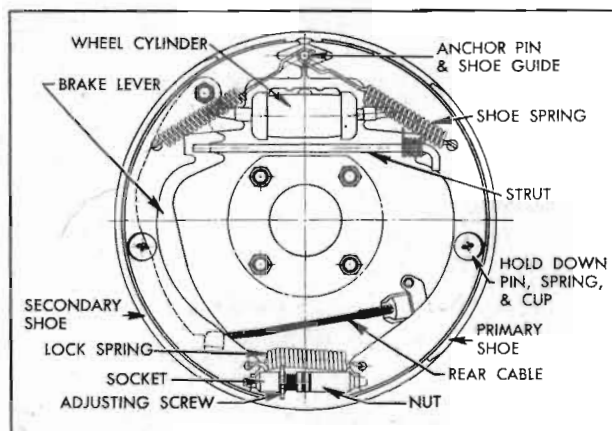

Figure 8-10—Rear Wheel Brake Assembly—Right
2. Unhook shoe return springs from anchor pin, using Brake Spring Remover KMO 526 or large pliers. Remove shoe hold down springs, spread shoes to clear wheel cylinder connecting links, remove parking brake strut (rear only), and remove shoes from backing plate. Disconnect cable from parking brake lever (rear only). See figure 8-10.
3. Separate the brake shoes by removing adjusting screw and lock spring. Remove parking brake lever from secondary brake shoe (rear lever (rear only)). See figure 8-10.
2. On rear brakes only, lubricate fulcrum end of parking brake lever and the bolt with Bendix or Delco Brake Lubricant, or Lubriplate, then attach lever to secondary shoe with bolt, spring washer, nut, and Pal nut. Make sure that lever is free moving. See figure 8-10.
4. Attach brake shoes to backing plate with hold down springs, pins, and cups, at the same time engaging shoes with wheel cylinder connecting links. The primary shoe (short lining) goes forward. On rear brakes, connect cable to parking brake lever and install strut between lever and primary shoe as installation is made. See figure 8-10.